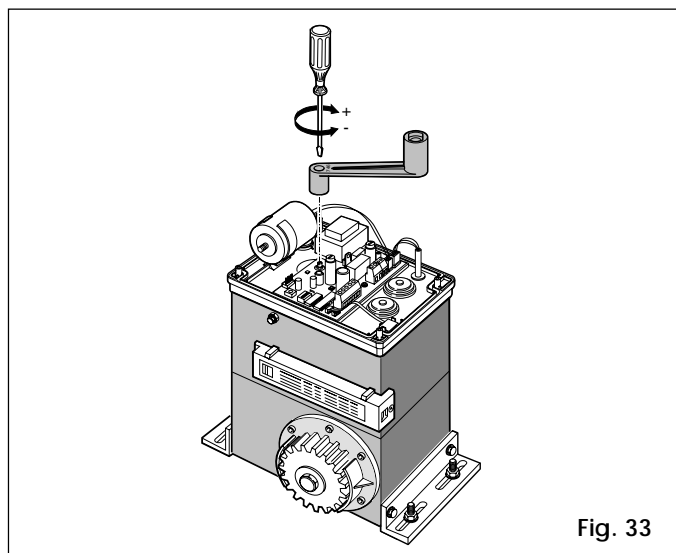

Fig. 33
- 2) Hold the driving shaft in position by means of the lever supplied, and adjust the clutch adjusting screw, as shown in Fig. 33.